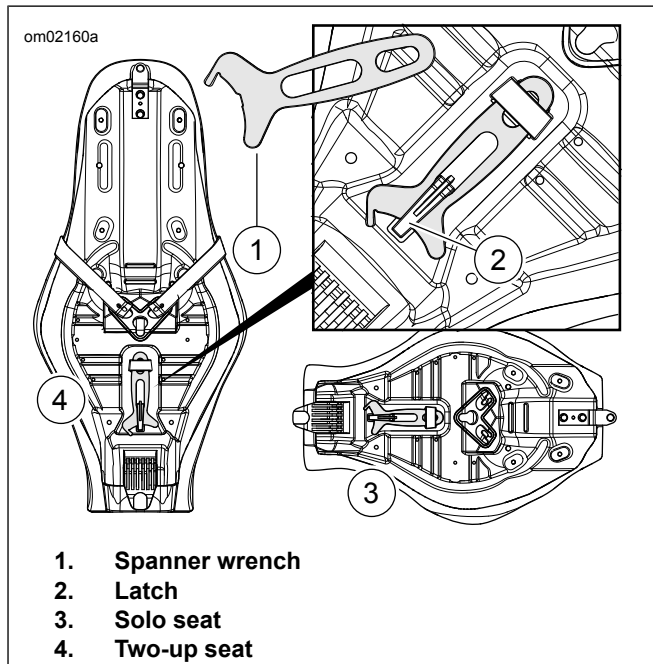

Figure 15. Spanner Wrench Retention Pocket
2. See Figure 15. Lift the latch (2) and slide the spanner wrench (1) from the retention pocket.